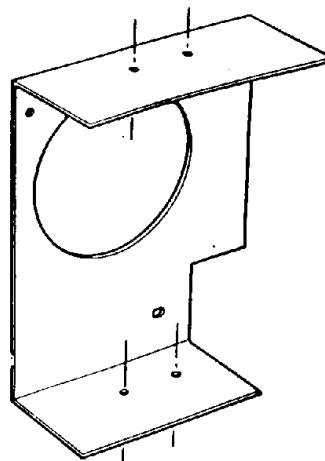

Fig. 6. Mounting bracket for semi-recessed application. (Optional extra order Part No. 770982).
- Position the mounting bracket (Fig. 6) in the previously prepared aperture so that the ends of the bracket are flush with the surface of the wall. Secure the bracket with suitable fixings (by others). (Fig. 7).